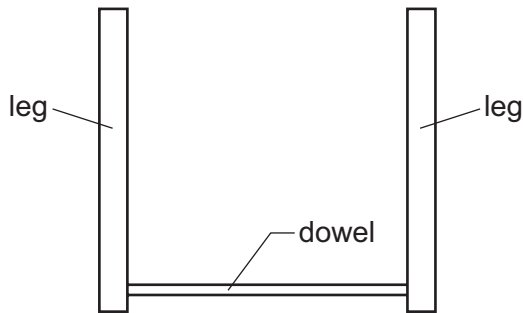

Fig. 11
- (ii) Fig. 11 shows the legs and dowel glued together. Add sketches to Fig. 11 to show how the legs and dowel could be clamped together while the glue sets.